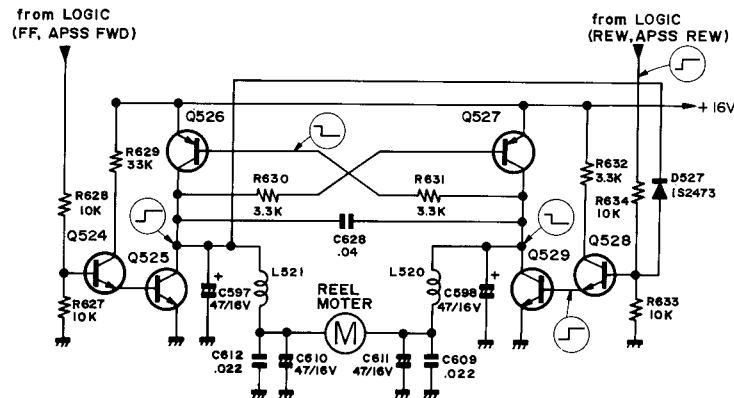

Figure 27-1
3. 4. 9 Reel Motor Control Circuit (Refer to Figure 27-1)